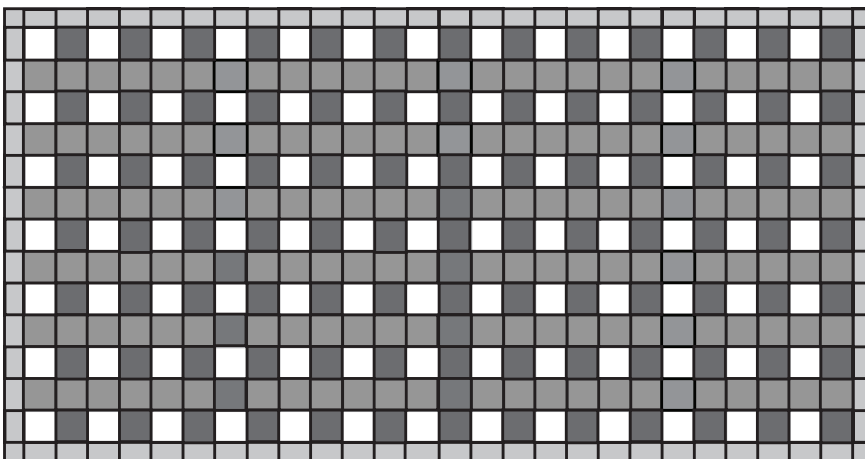

Figure 7
- At this point in the installation your tile layout should look like the drawing shown in **Fig. 7**.